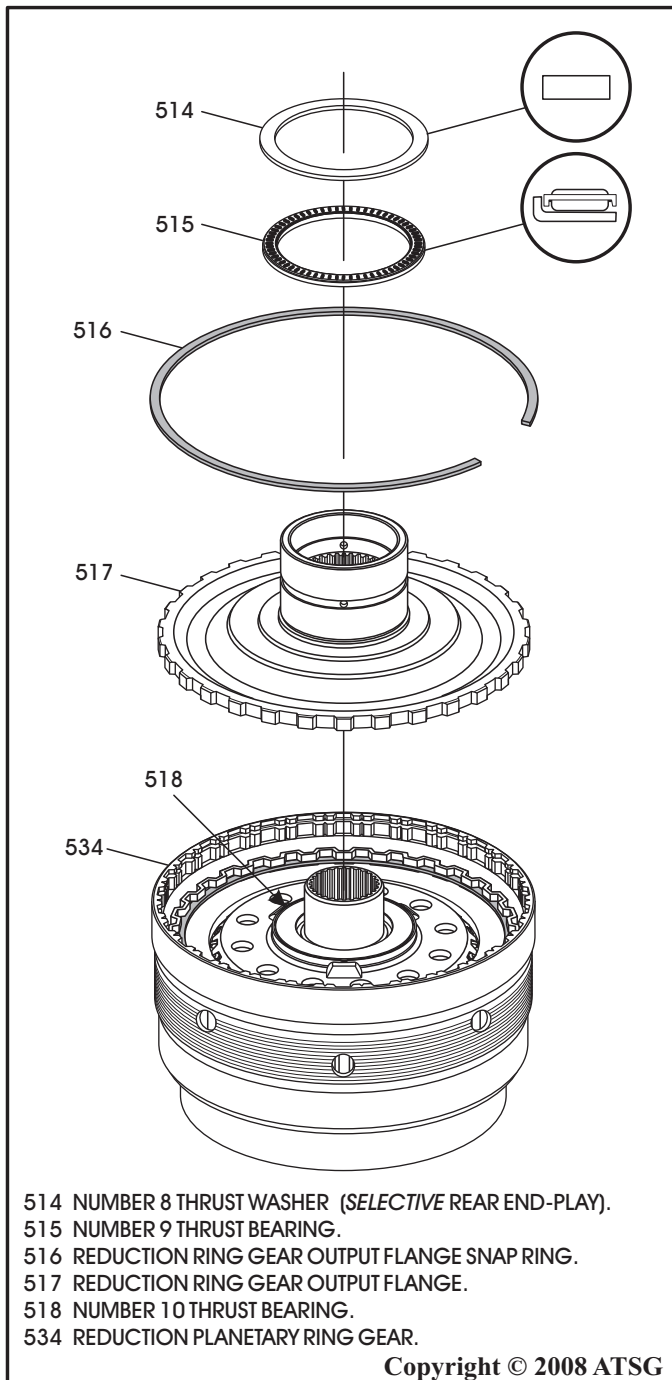

Figure 129
25. Install the reduction ring gear output flange, as shown in Figure 129.
26. Install the reduction ring gear output flange snap ring, as shown in Figure 129, and ensure that it is fully seated.
27. Install the number 9 thrust bearing, as shown in Figure 129, and retain with a small amount of Trans-Jel®.